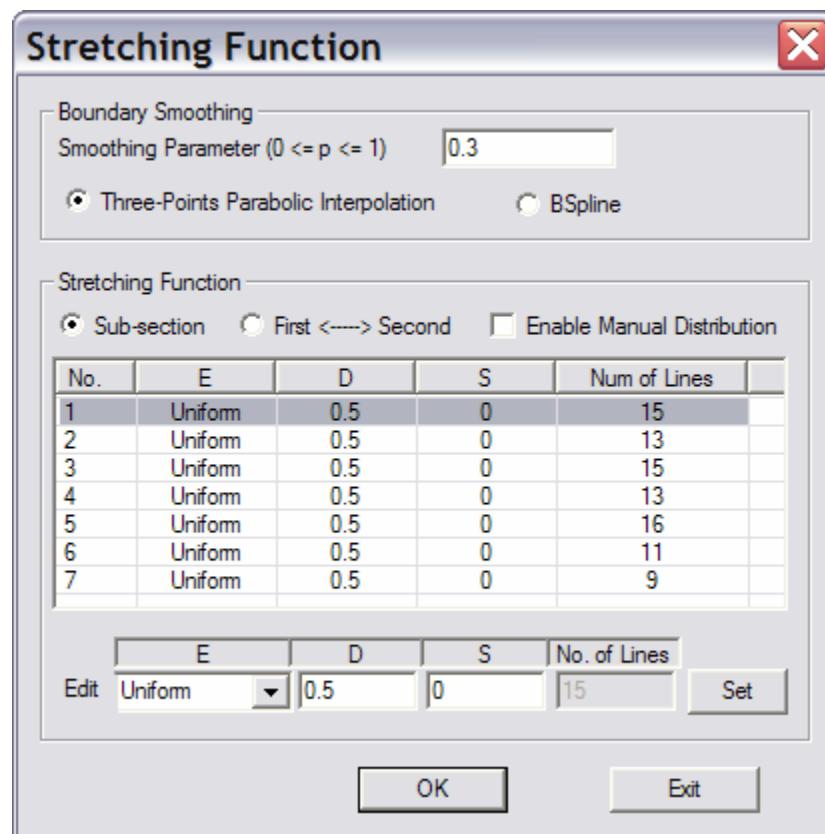

Figure 4-42
- For the multi-block domain as shown in Figure 4-42, you can generate meshes block by block. As long as the boundaries of the generated blocks are neighbored each other, you can connect them into one whole mesh by selecting **Connect** on **Mesh Generation** toolbar or **Connect Block** from **Project view**. For those blocks without connections, you cannot connect them.